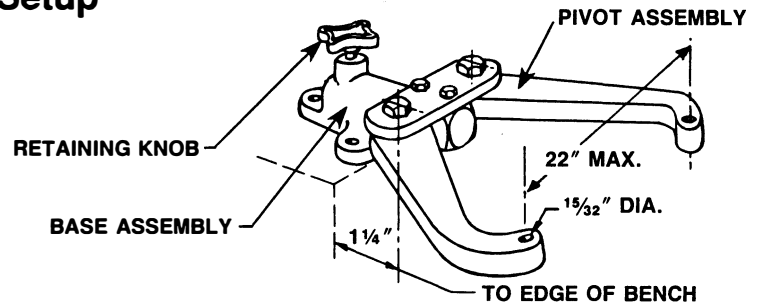

FIGURE 1
2. Attach the Bench-Mounted Holding Fixture to the work surface using three 1/2" dia. bolts fastened with washers and nuts under the bench. See Figure 1.